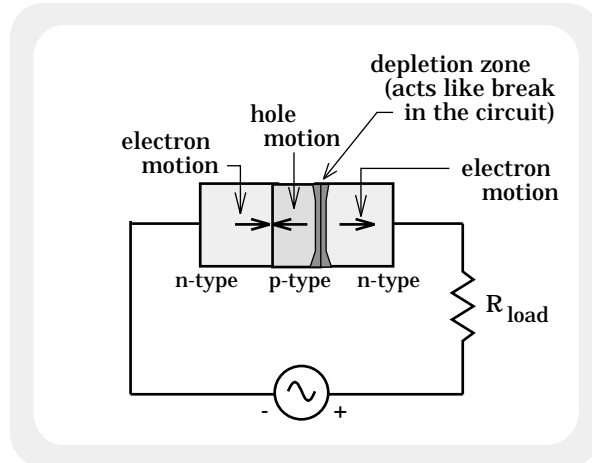

FIGURE 21.17
2.) The semi-conductor arrangement shown in Figure 21.17 is essentially that of two diodes back-to-back. Called a transistor, the arrangement will not pass current in either direction.